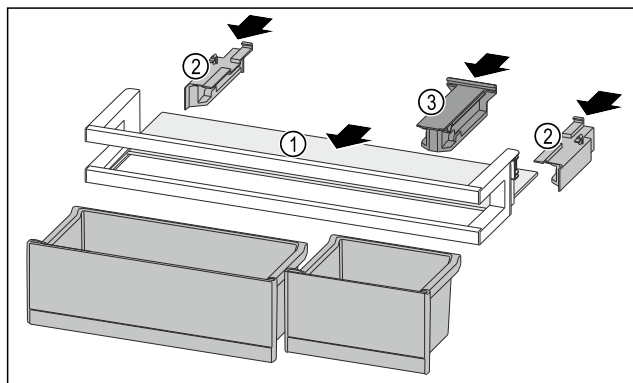

Fig. 149
- ▶ Push the shelf Fig. 149 (1) into the side recesses.
- ▶ Insert the side parts Fig. 149 (2).
- ▶ Insert the holding part Fig. 149 (3).